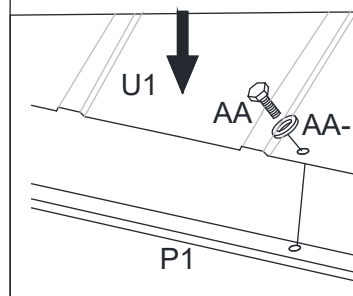

Figure 12-2
12.2: Attach Roof Vent Panel (U1) to the Roof Vent Frame and secure to Short Side of the Roof Vent (P1) using Bolt (AA) and Steel Washer (AA-1). See Figure 12-2.